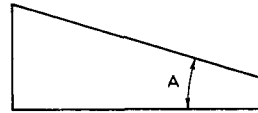

Fig. 1.67
9. You are supplied with three angle blocks of the type shown in Fig. 1.67, with the angle  $A = 27^\circ$ ,  $9^\circ$  and  $3^\circ$  respectively. Show by means of dimensional sketches how to arrange *two or more* of these blocks to give an angle of (a)  $18^\circ$  (b)  $30^\circ$  (c)  $39^\circ$  (d)  $33^\circ$  (e)  $21^\circ$  (f)  $12^\circ$ .